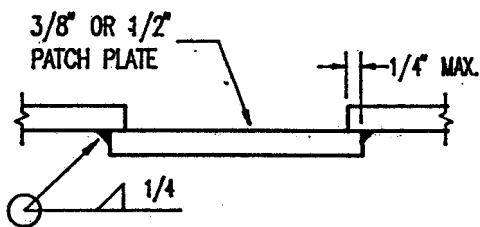

Figure 2A
2. Fillet weld an *original thickness* patch plate over the cutout maintaining a maximum of 1/4" overlap between the plates (Figs. 2A & 2B). Plate can be installed on hot side or cooling side, whichever is most convenient.